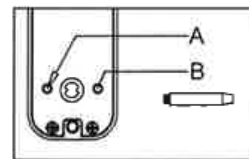

Figure 3
- Screw the Bolt Guide in to Hole A (Figure 3) for a door opening to the right (clockwise opening)
- Screw the Bolt Guide in to Hole B (Figure 3) for a door opening to the left (anti-clockwise opening)